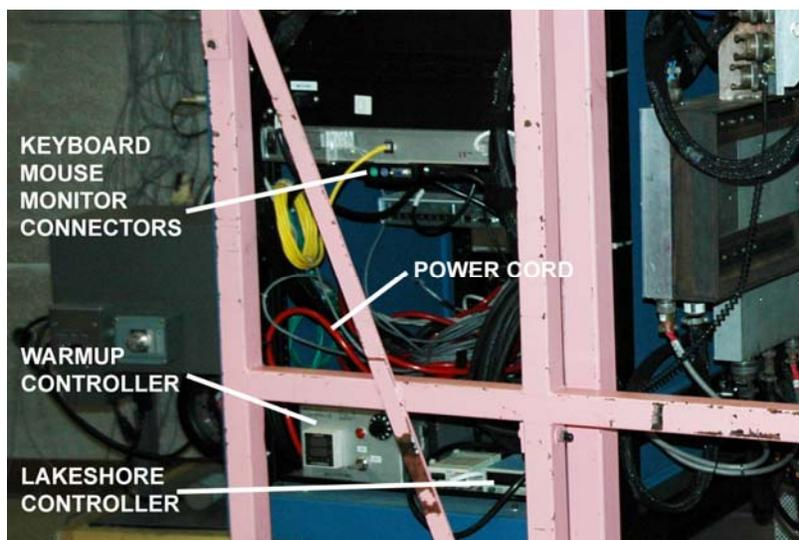

Figure 1: Back view of FLAMINGOS, showing the MOS dewar warmup controller.
2. Locate the warmup controller on the lower back side of the right-hand FLAMINGOS electronics rack (the one containing the flamingos1a computer and the motor controller; Figure 1). It is a small aluminum module with a switch, display window, and a dial which should be set to 5 for warming up the MOS dewar. It will have a dedicated power cord which is tied up to the back of the rack.
4. Turn on the warmup controller (Figure 1); there are two power switches, a rocker switch on the back of the box and the key on the front. The red light should come on and the temperature display should indicate the current and setpoint temperatures. At this point the heater can be left to boil off the residual LN2 in the MOS dewar and warm it up to room temperature, which will take 4 – 5 hours.